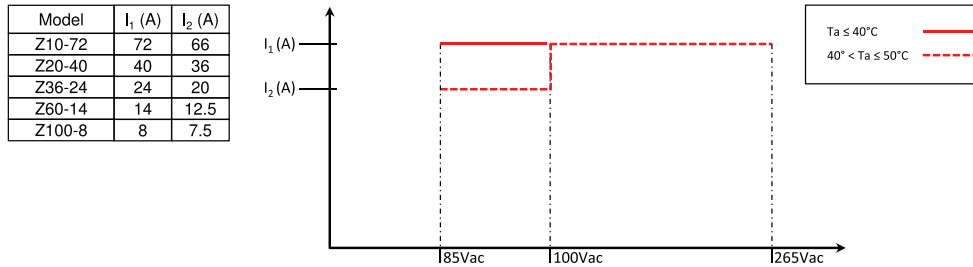

Fig. 2-1: Z+800 Rated Output Current Vs. Line Voltage and Ambient Temperature
- \*21: Refer to Fig.2-1 below